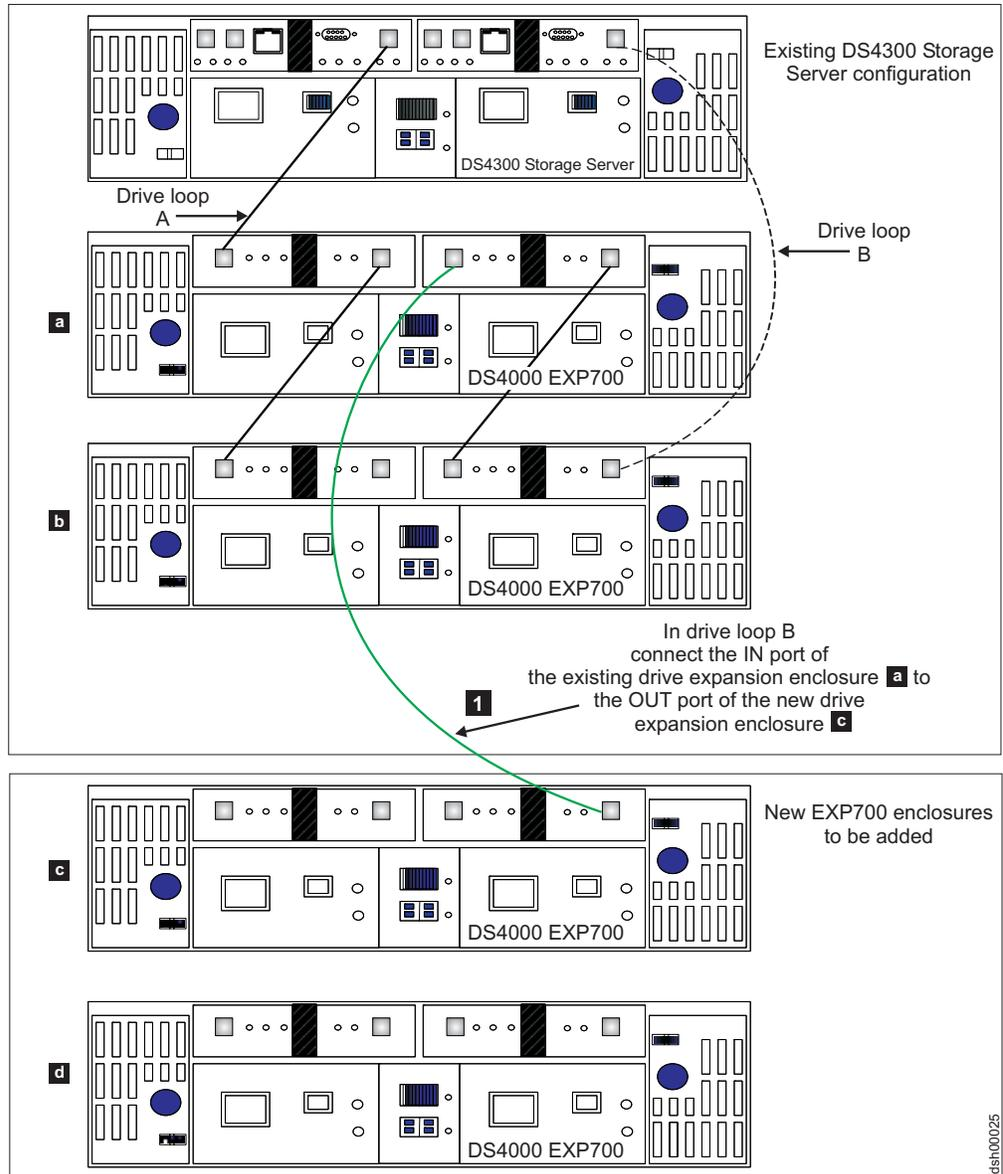
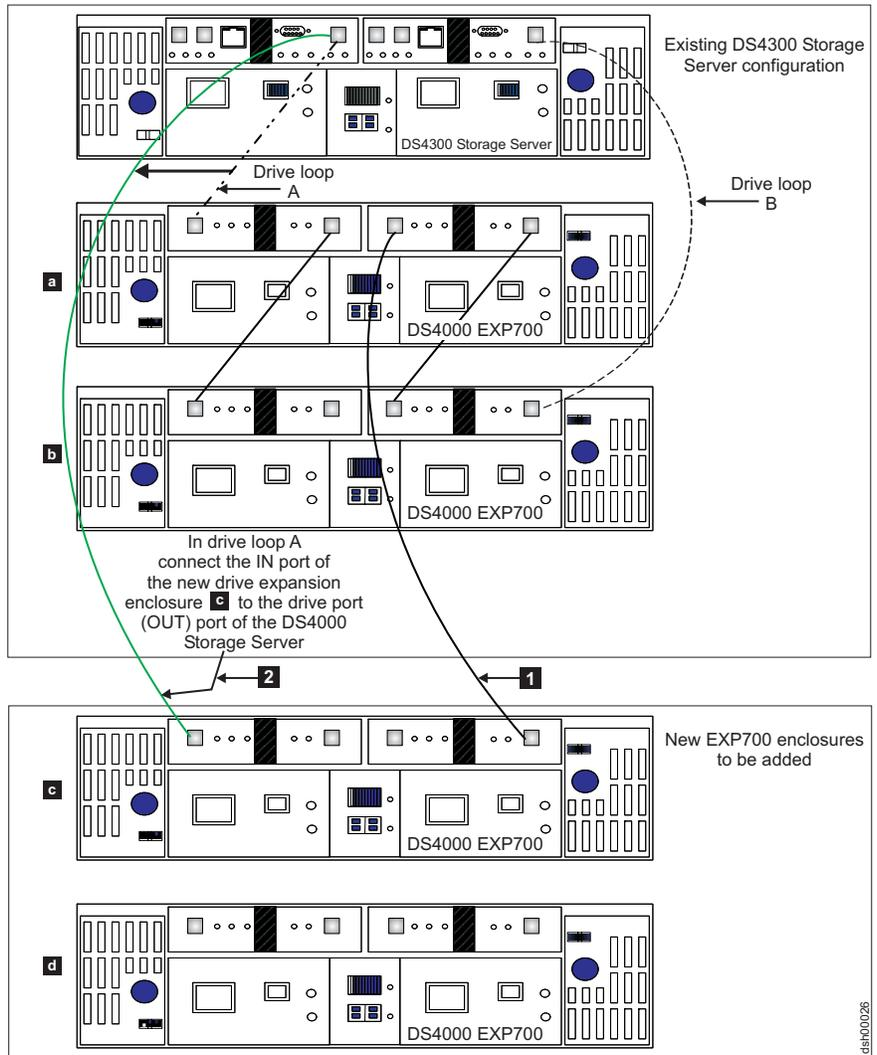
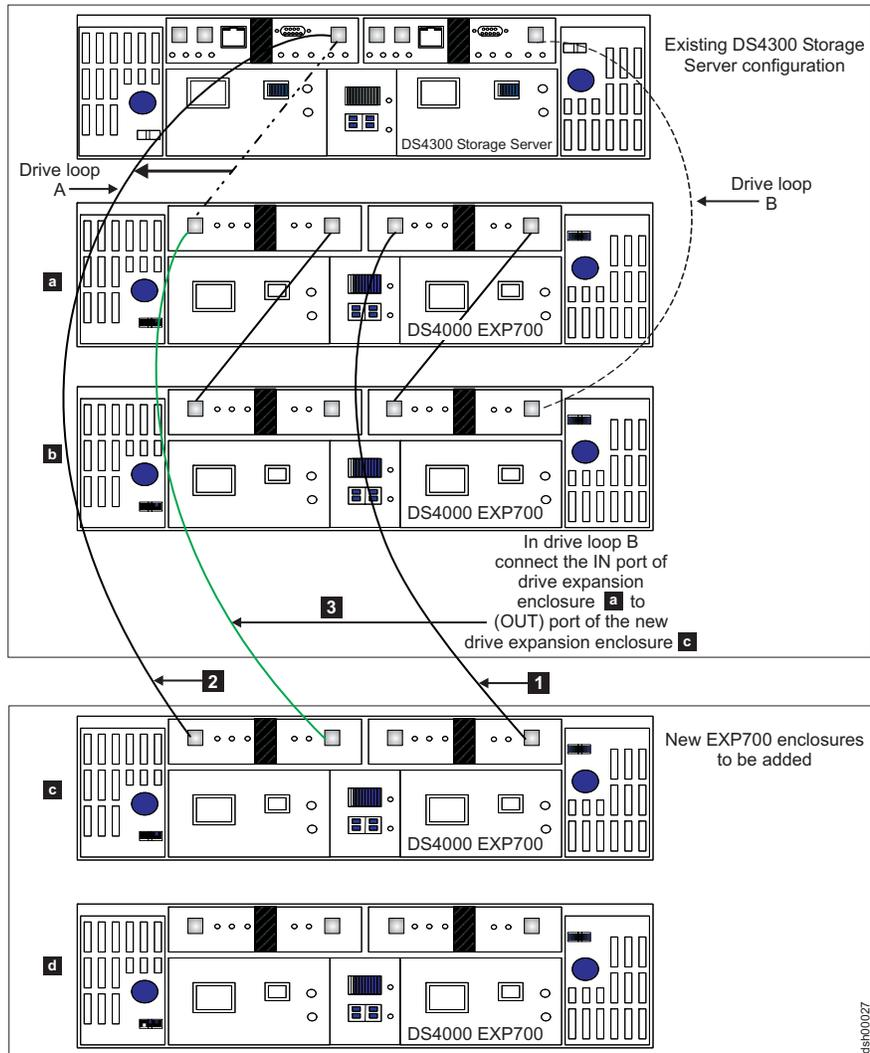

Figure 34. Cabling a single drive enclosure to the beginning of a functioning drive loop (step 1 of 3)
Figure 35. Cabling a single drive enclosure to the beginning of a functioning drive loop (step 2 of 3)
Figure 36. Cabling a single drive enclosure to the beginning of a functioning drive loop (step 3 of 3)
It is possible to add new storage expansion enclosures to either the beginning (top) or end (bottom) of a functioning storage expansion enclosure drive loop. The cabling instructions illustrated in Figure 34 on page 88, Figure 35 on page 89, and Figure 36 on page 90 describe cabling a DS4000 EXP700 Storage Expansion Enclosure to the beginning (top) of a redundant drive loop of a functioning DS4300 Storage Subsystem (model 60X or 60U). IBM does not recommend that you add storage expansion enclosures in this manner, especially if there is insufficient rack space to allow the methodical, uncluttered, and uniform fibre channel cabling of such new enclosures. Without proper planning, disadvantages of adding expansion units in this manner include cable management issues that contribute to avoidable troubleshooting difficulties. (For the diagram of a properly planned addition of a new expansion enclosure at the beginning (top) of a functioning storage expansion enclosure drive loop, see Figure 30 on page 74.)
- ___ Step 2. Extend one of the drive loops (that is, drive loop B) in a DS4000 Storage Subsystem redundant drive loop pair by connecting the IN port of the first (existing) storage expansion enclosure to the OUT port of the new storage expansion enclosure as shown in Figure 34 on page 88.
- ___ Step 5. In the other drive loop (that is, drive loop A) in a DS4000 Storage Subsystem redundant drive loop pair, remove the connection from the DS4000 Storage Subsystem drive loop port to the IN port of the first storage expansion enclosure and connect it to the IN port of the new drive enclosure as shown in Figure 35 on page 89.
- ___ Step 7. In drive loop A, cable the new drive enclosure's OUT port to the IN port of the first enclosure in the already functioning storage expansion enclosure drive loop as shown in Figure 36 on page 90.